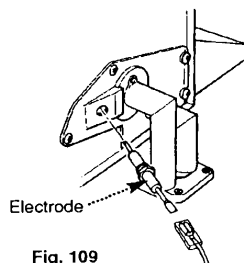

Fig. 109
**11.3 Ignition Electrode (Fig. 109)**